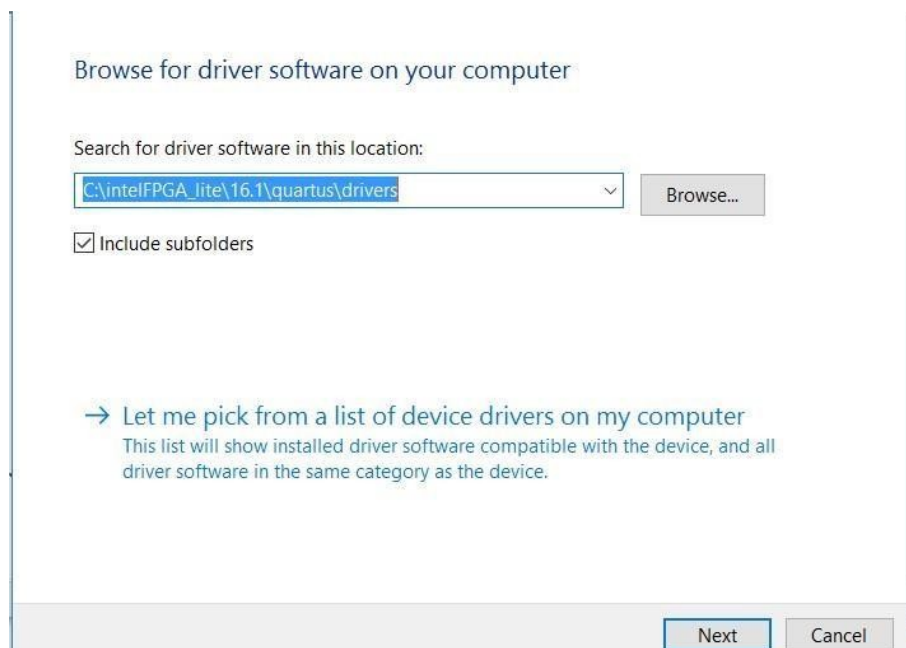

Figure 16: Directory containing USB Blaster drivers
- ☐ Choose to browse your computer for driver software and navigate to the path shown below in Figure 16.